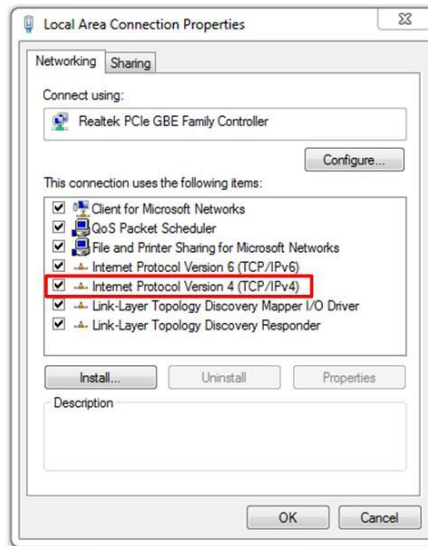

Figure 3-6 Windows Network Connections properties page
Step 6: From the Local Area connection Properties window, double-click on "Internet Protocol Version 4 (TCP/IPv4)". See Figure 3-6.